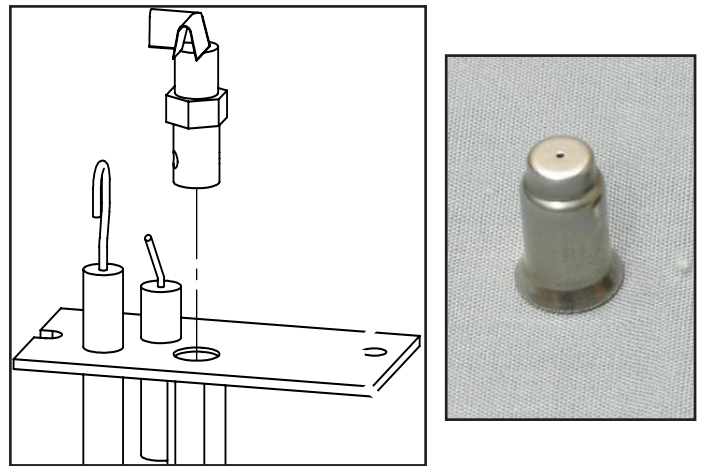

Figure 9. Pilot Orifice
5. Convert the existing pilot orifice with the one provided in this kit (see Figure 9) using a **7/16" wrench**. Fully unscrew and remove the pilot head and replace the orifice insert, bell end down. Re-install and tighten the pilot, if the head does not reach proper orientation in the snug position then contact your Enviro dealer.